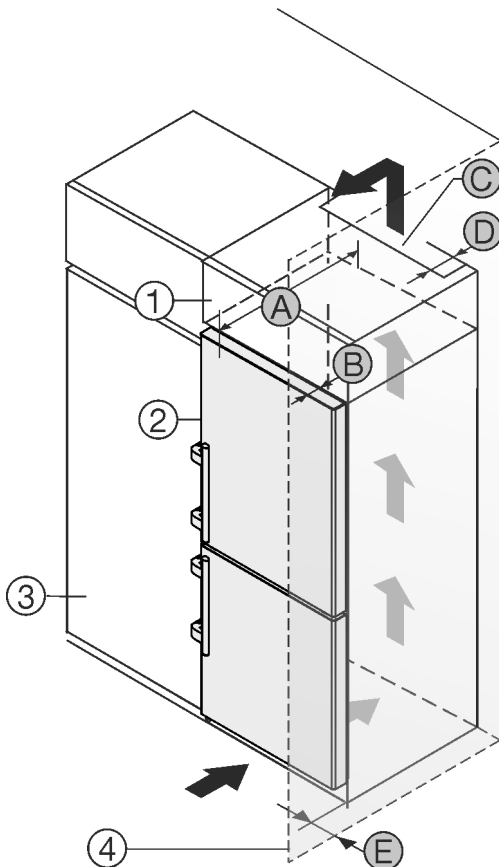

Fig. 2
- (1)** Top cabinet *
- (2)** Appliance *
- (3)** Kitchen cabinet *
- (4)** Wall *
- (A)** Appliance depth *
- (B)** Door depth *
- (C)** Ventilation cross section *
- (D)** Distance to the back of the appliance *
- (E)** Distance to the side of the appliance *
You can place the appliance directly beside the kitchen cabinet *Fig. 2 (3)*.*
There must be a ventilation shaft at the depth *Fig. 2 (D)* of the back of the top cupboard over the entire width of the top cupboard.*
The ventilation cross-section *Fig. 2 (C)* must be maintained under the ceiling.*
If the appliance is set up with the hinges next to a wall *Fig. 2 (4)*, the distance between the appliance and the wall must be at least 57 mm. This is how far the handle protrudes when the door is open.*
In order to be able to fully open the door, the appliance must protrude by the depth of the door *Fig. 2 (B)* from the front of the kitchen cabinet. The appliance may protrude further depending on the depth of the kitchen cabinets *Fig. 2 (3)* and whether wall spacers are used.*